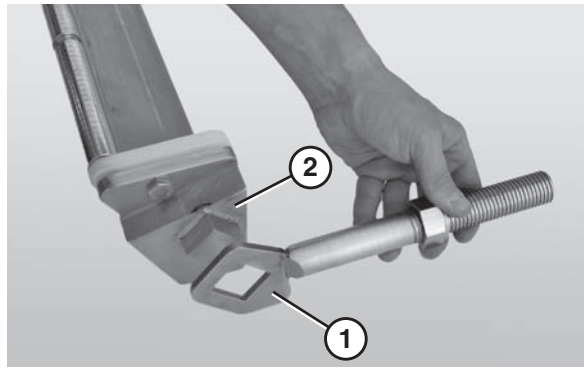

Figure 76
3. Slide the nose bar shafts (Figure 76, item 1) off of the nose bar weldment (Figure 76, item 2).